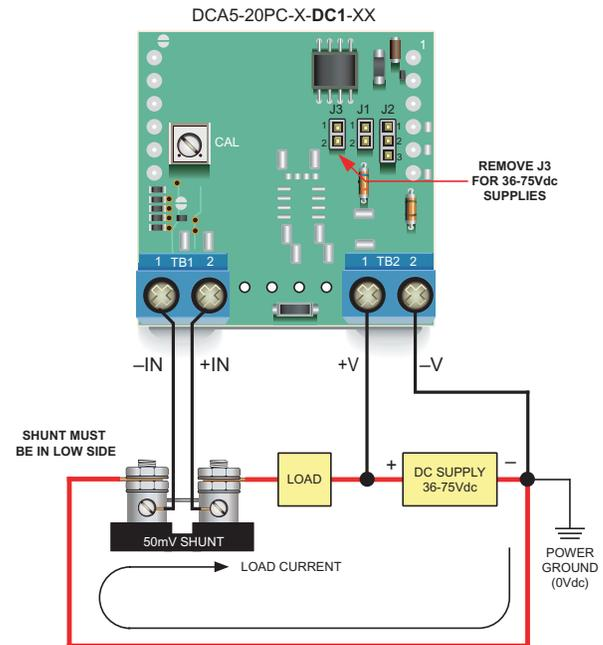

Figure 3. Low-Side Shunt Connections for "-DC1" Models Modified for 36-75Vdc Non-Isolated Power (See Technical Note 5)
- Operation With 36 to 75Vdc Power:** As shipped, all '-DC1' models' rated operating supply range is +5 to +40Vdc. However, '-DC1' models can be user configured for 36 to 75Vdc operation by removing (opening) jumper J3. Please note that this user modification can only be performed on '-DC1 power models. Also, all '-DC1' models – including those that have been modified for 36-75Vdc operation – can only be connected in low-side, grounded-shunt applications. See Figure 3 for detailed wiring information. Any reconfiguration of J3 must be made prior to connecting the power supply and shunt to the ammeter.